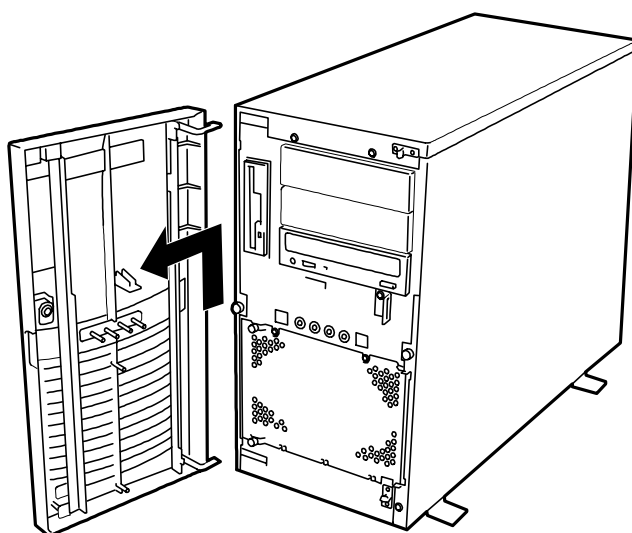

Figure 2. Removing the Front Door
4. To remove the front door, open it and lift the door and pull it towards you (see Figure 2). The mounting pins of the front door are disengaged from the mounting holes on the front of the system.
1. Position the front door so the mounting pins of the front door are aligned with their mounting holes on the front of the system. See Figure 2. Slide the lower mounting pin into its mounting hole and then slide in the upper pin.